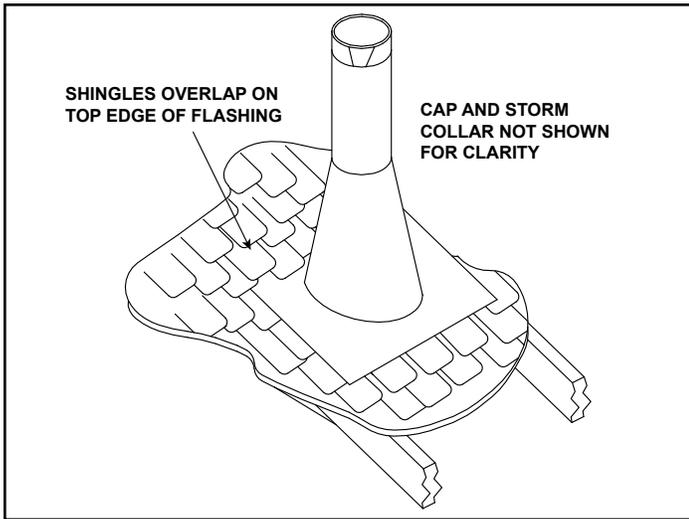

Figure 5.13
- Slip the flashing over the pipe section(s) protruding through the roof. Secure the base of the flashing to the roof with roofing nails. Ensure the roofing material overlaps the top edge of the flashing as shown in Figure 5.13. Verify that the chimney is the required height above the roof. See roof pitch table, Figure 4.2.